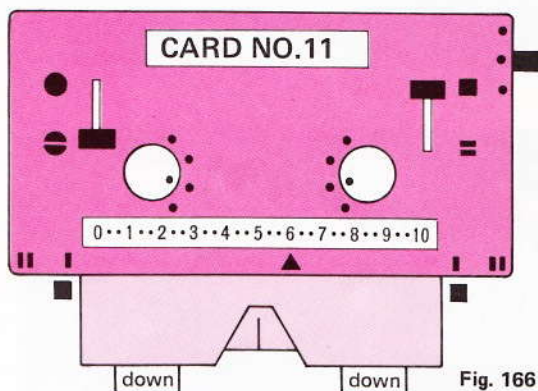

Fig. 166
- Set carriage as in fig. 166 (returning levers on 'normal') and push carriage to the left. The needles are selected.